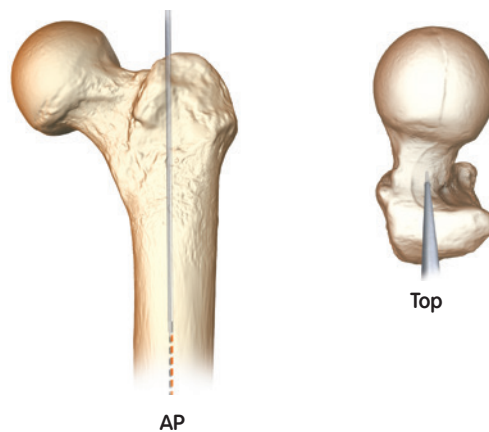

Figure 6
**Note:** The entry point for the FAN is in line with the center of the intramedullary canal in both the AP and the lateral views. The entry point is slightly posterior in the top view shown, although this varies with patient anatomy (Figure 6).